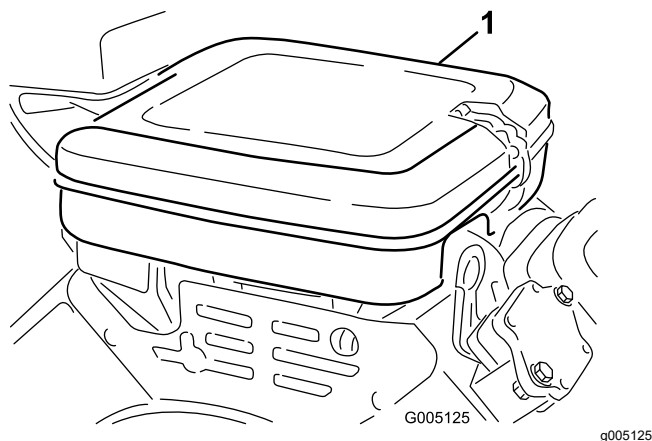

Figure 32
1. Clean the air-cleaner cover (Figure 32).